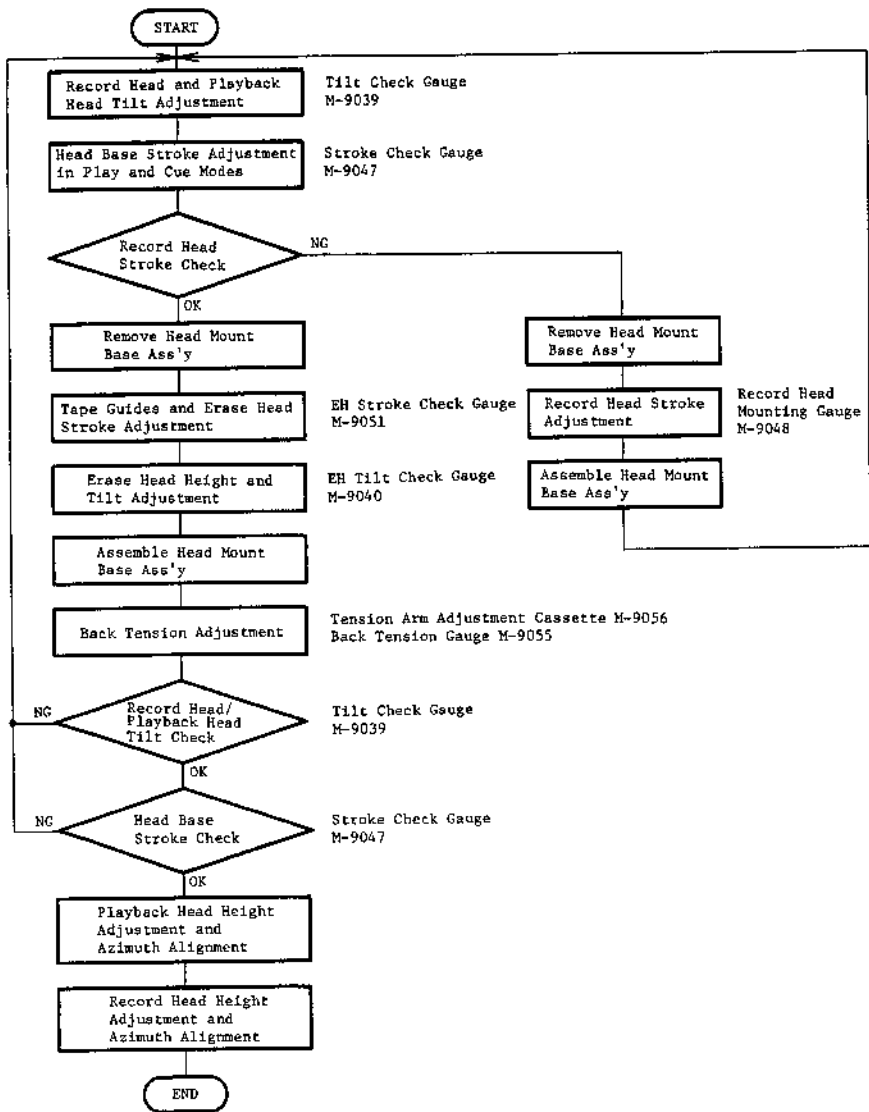
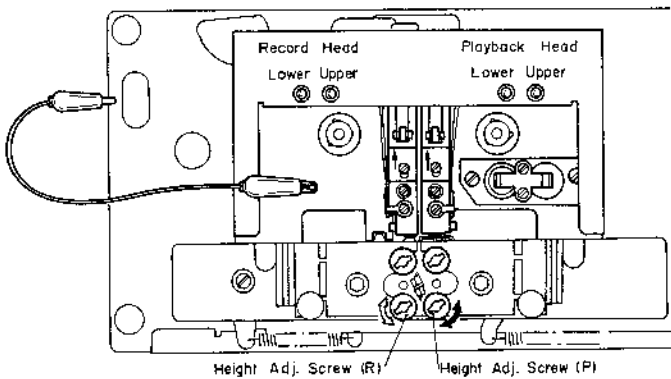

Fig. 4.9
Fig. 4.10
Note: On items 4.4 – 4.10, refer to Fig. 4.9 flow chart. Refer to Figs. 4.10 and 4.11.
- (1) Load a Tilt Check Gauge M-9039 (DA09039A) in the N-700ZXL.
- (2) Clip the grounding terminal of the Tilt Check Gauge with one end of the cord with clip, and the chassis of the N-700ZXL with the other end.
- (3) Remove both of the Height Gears.
- (4) Set the N-700ZXL in Play mode. Check to insure whether the Beacons Playback Head "Upper" or "Lower" and Record Head "Upper" or "Lower" are illuminating. In order not to give damages onto the head surfaces, push both of slide knobs of the Gauge to the direction of arrow marks, then return them to the original place to be in contact with record head and playback head surfaces after Play mode is securely locked.
- (5) Check to insure freedom from contact between the Gauge and pad lifter.
- (6) Beacon Playback Head "Lower" will light on when height adjustment screw (P) turned clockwise but Playback Head "Upper" when counterclockwise. Adjust so that both "Upper" and "Lower" will light on even when you move the slide knob to the direction of an arrow mark and then return them to the original place.
- (7) Same procedures will apply to the Beacons Record Head "Upper" and "Lower", except for the height adjustment screw (R).
- (8) Set the N-700ZXL in Stop mode and fit both of the serrated height gears. Then set the N-700ZXL again in Play mode and insure all of the 4 Beacons are illuminating. If not, (3) through (7) will have to be repeated till satisfactory results are obtained.